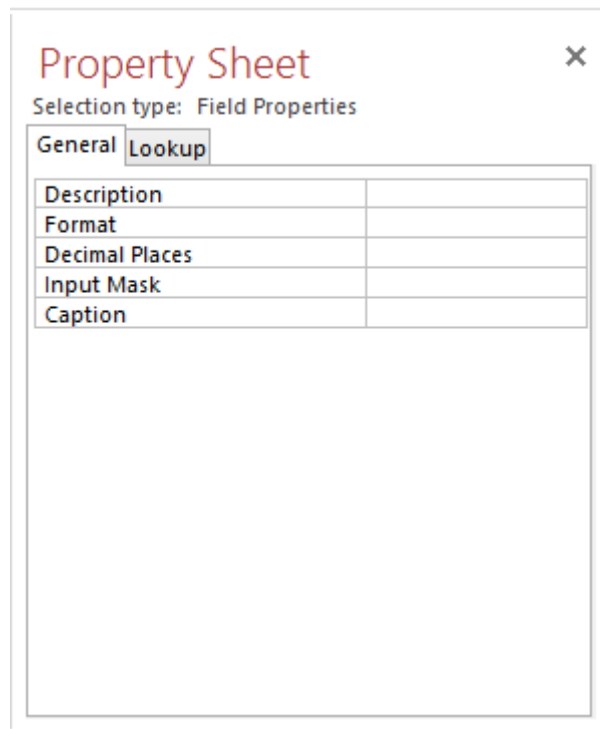

Figure 22: Field Property Sheet Window
10. Open the Field Properties Window: Next, you will set a query field property. To open the property sheet for a query field, position the mouse in the *UnitPrice* field and click **Query Tools | Design → Property Sheet** from the Show/Hide group. The Property Sheet for Field Properties appears on your screen (Figure 22).